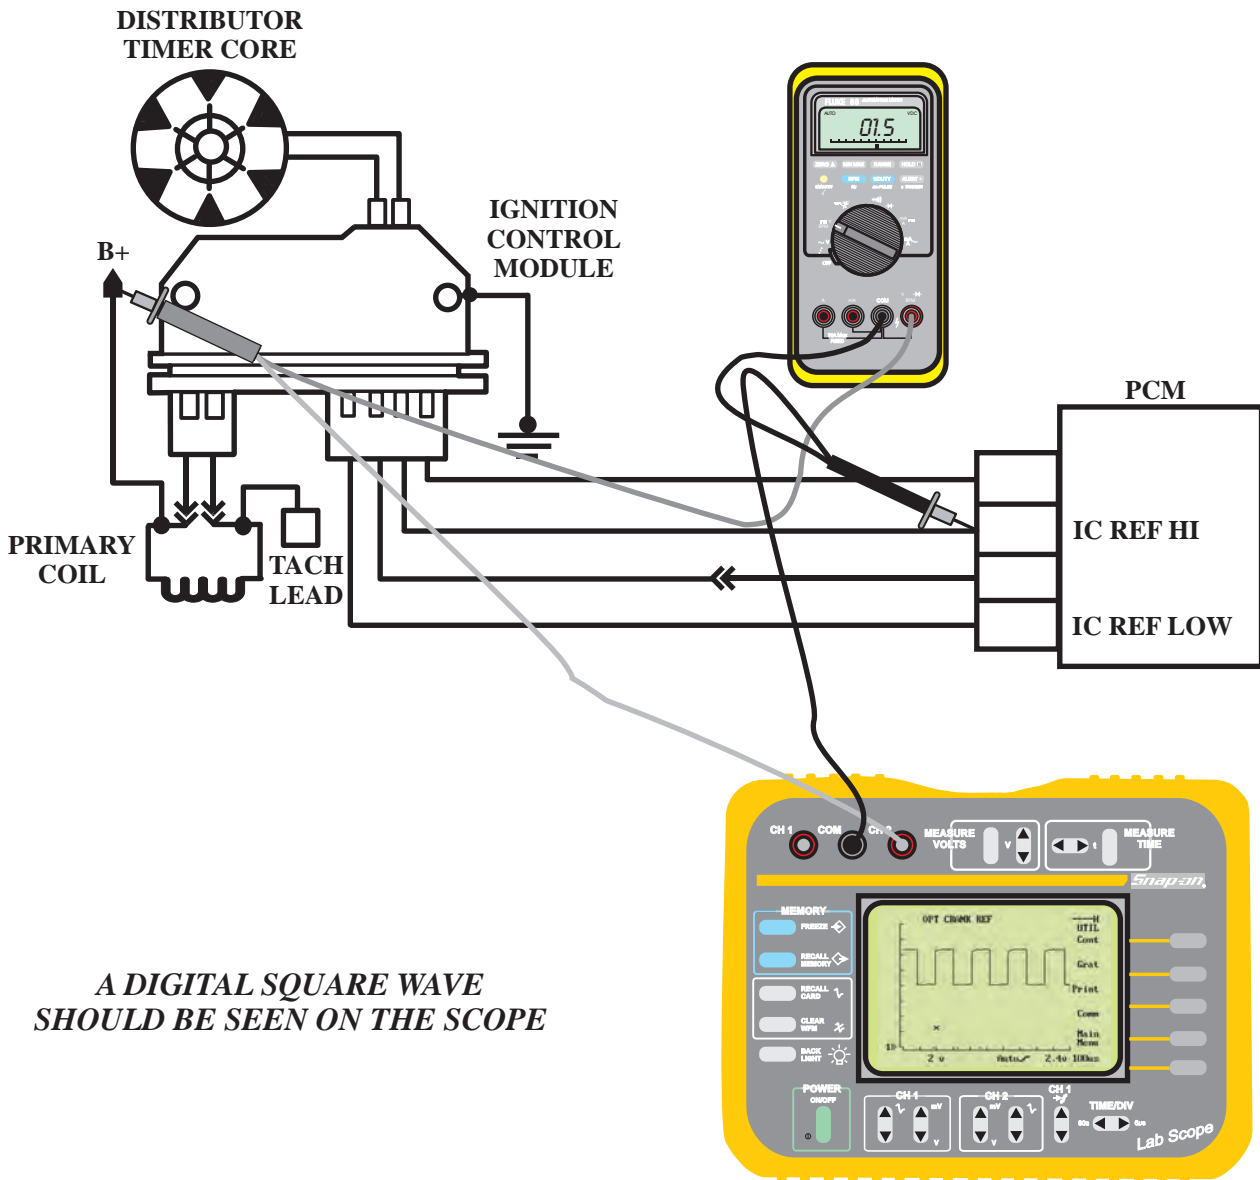

Figure 34
- With a voltmeter connected to the IC Reference High circuit and B+, as shown in Figure 34, a zero to approximately 1.5 volts signal should be seen. This is NOT the best method of checking this signal.
- The digital square wave can be monitored with an oscilloscope or a graphing voltmeter as also seen in Figure 34.